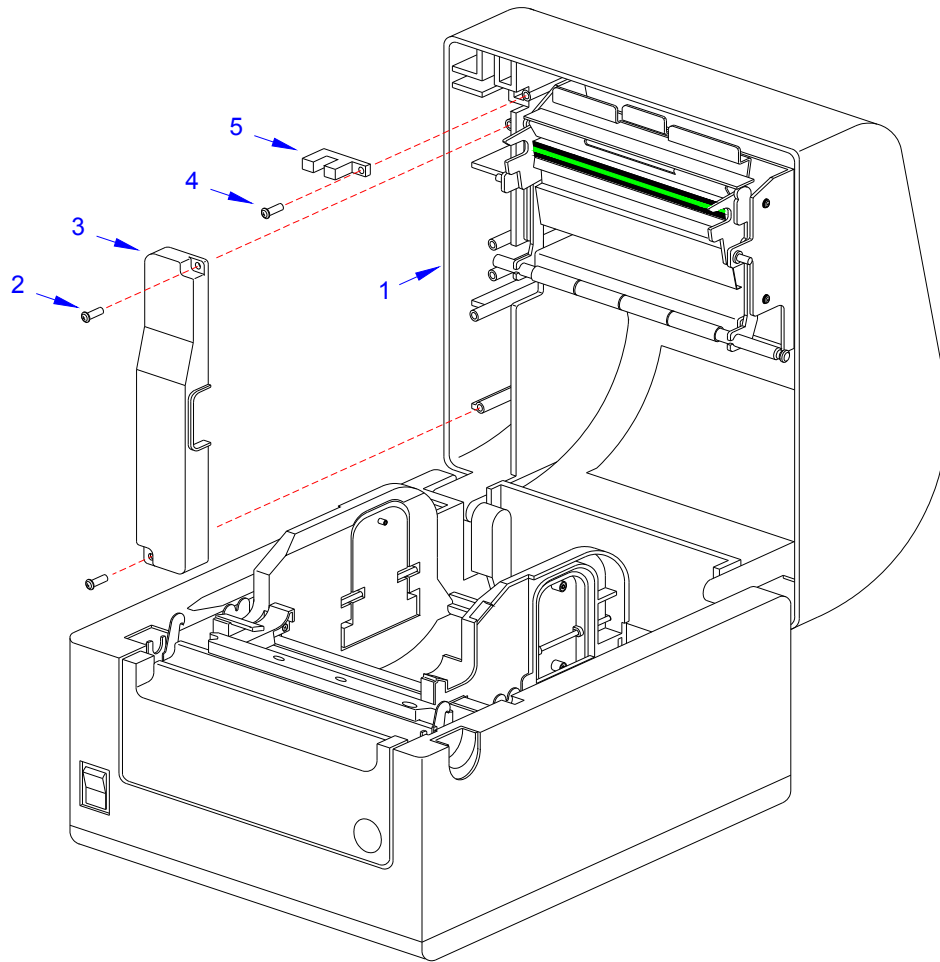
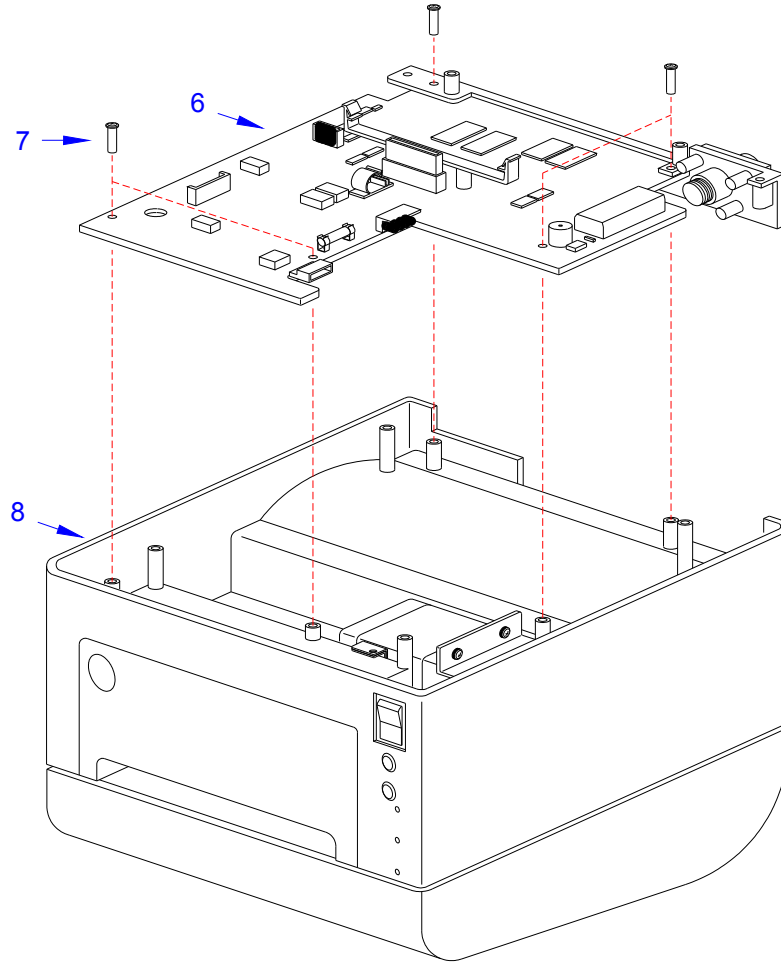

Figure 4-9a, Cover Sensor Replacement
Figure 4-9b, Cover Sensor Replacement
- 2 Lift up the top housing cover (1) (See Figure 4-9a) to access the sensor area.
- 3 Remove the two screws (2) securing the cable cover (3) to the top housing cover (1).
- 4 Remove the screw (4) that secures the cover sensor (5) to the top housing cover (1).
- 5 Remove the base cover from the printer to access the main board (6) (See Figure 4-9b).
- 6 Remove the five screws (7) that secure the main board (6) to the printer (8).
- 7 Remove the main board (6) and disconnect all wiring harnesses of the defective cover-open sensor.
- 9 Connect the replacement sensor to the main board (6) and re-secure the board (6) to the printer (8) using five screws (7).
- 10 Secure the base cover to the printer (8).
- 11 Secure the sensor (5) (See Figure 4-9a) to the top housing cover (1) using screw (4).
- 12 Return the cable cover (3) to the top housing cover (1) and secure it using two screws (2).